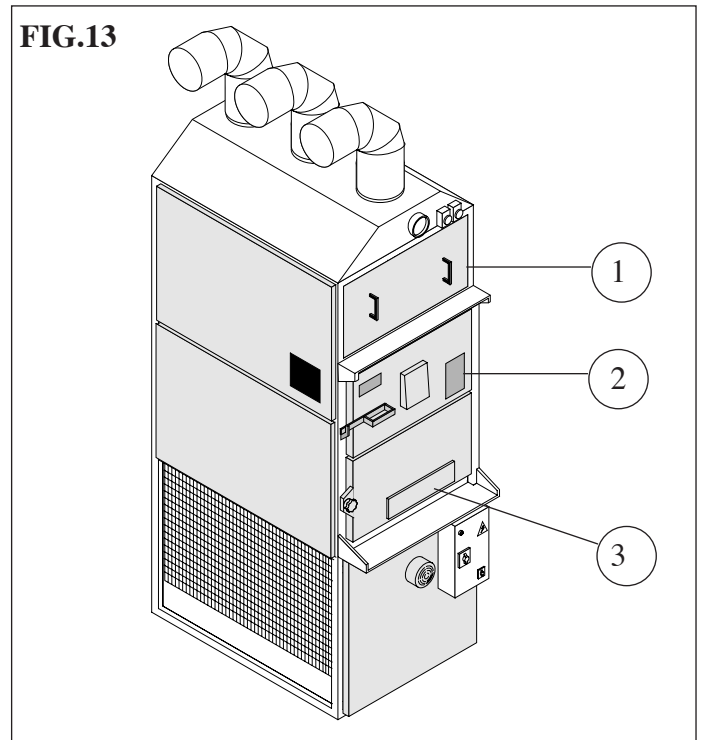

FIG.13
To adjust combustion, regulate suction power in the lower (fig.13 pos.3).
To adjust combustion, regulate suction power in the lower door (pos.3 in fig.13).
The machine must only be loaded with fuel via the upper door (pos. 1 in fig.13). Fuel examples include:
- open up the two front doors (pos. 1 and 2 in fig.13).
When the warm air generator is on, there is a chance that the alarm will be set off. This is due to the excessive heat generated by the furnace. In this case, lower the heat generation by shutting down the air suction (pos. 3 in fig. 13), and stop loading fuel.
You can turn off the furnace by shutting down the air suction (pos. 3 in fig. 13)